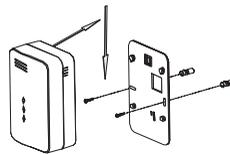

Fig. 3
3. Using a 5 mm (3/16-inch) drill bit, drill two holes at the marks and insert wall plugs (Fig 3).
7. Line up the side slot of the bracket and the detector. Push the detector onto the mounting bracket until a click is heard (see arrow direction, Fig 3).